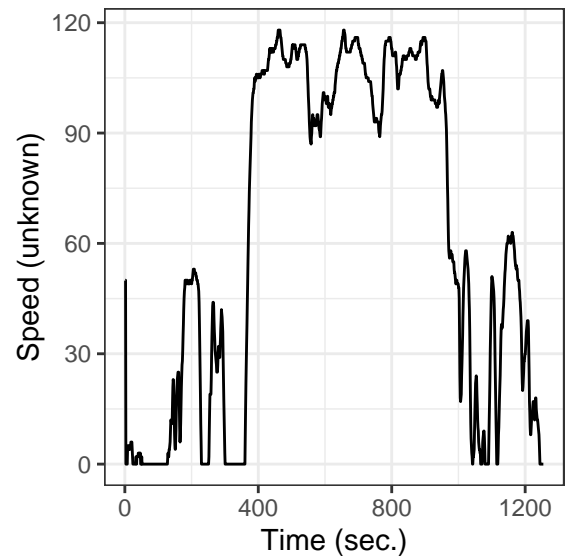
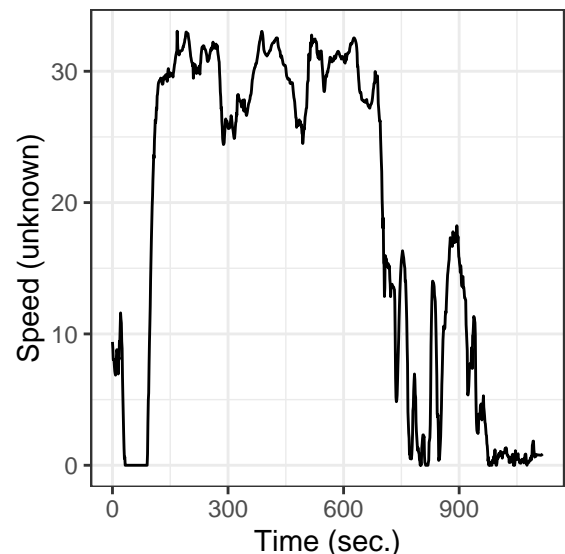

Fig. 1. A sample of speed graph of OBDII (the 1st trip).
Fig. 2. A sample of speed graph of Smartphone (the 1st trip).
**Visualization of sample trips.** Fig 1 shows the speed graph of a sample trip from OBDII data. As we can see, the OBDII trip was recorded for about 1,200 seconds and we do not know the unit for the recorded speed. Fig 2 shows the speed graph of a sample trip from mobile data. Note that the scale of x-axis has been adjusted as zero. By examining the data set little bit, it can be easily realized that the first trip from each sources corresponds to each other as in Fig. 1 and Fig 2. As we can see the whole trip data from smartphone corresponds to the trip data from OBDII around 300 seconds.